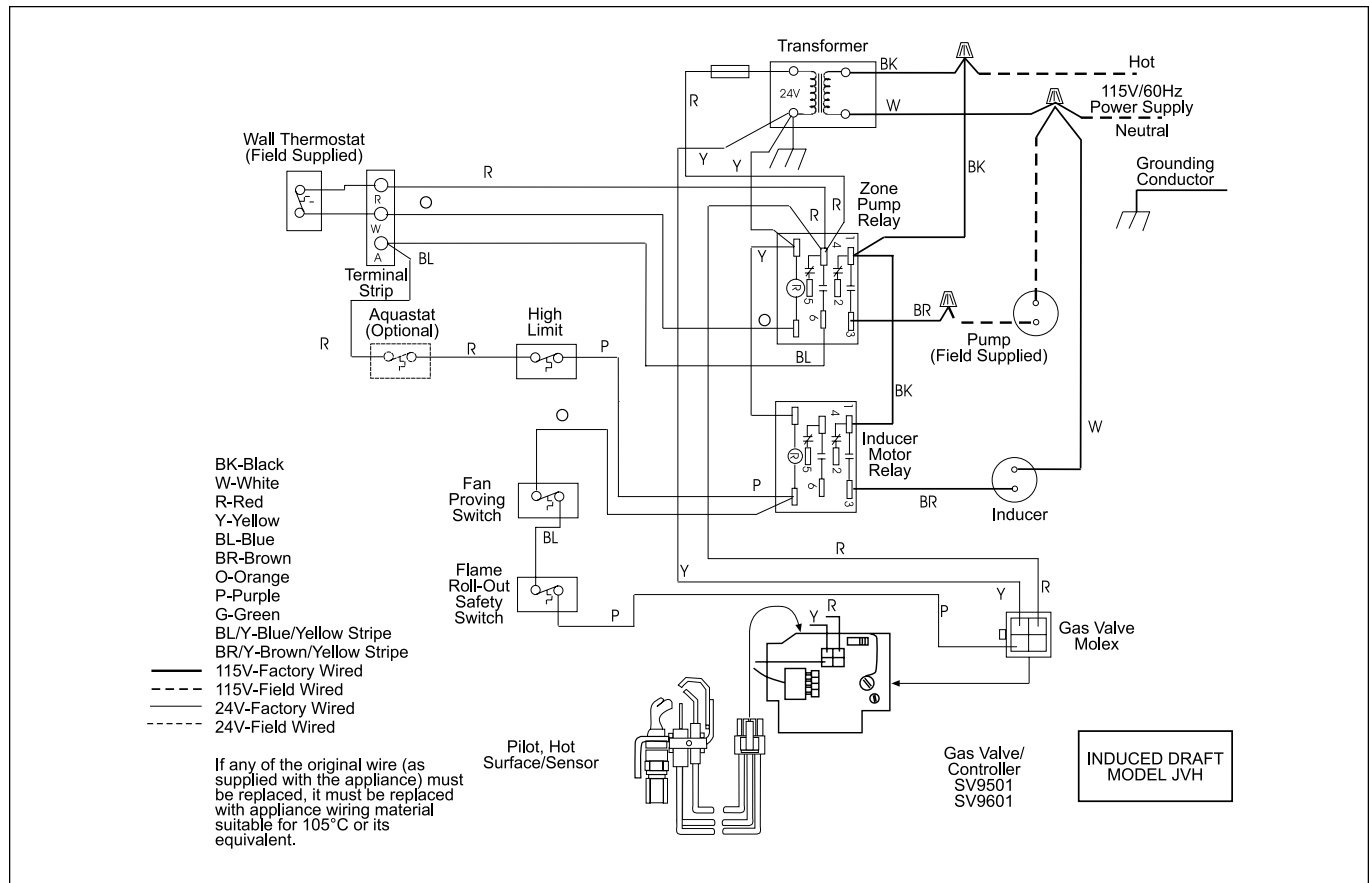

Figure 10. Wiring Diagram, JVH.
3. Follow the schematic in Figure 10. Remove the wire nut from the two black wires, and connect the hot lead from the 115V power supply, and the neutral lead to the white wires and the neutral side of the pump. The brown wire attaches to the hot side of the pump.